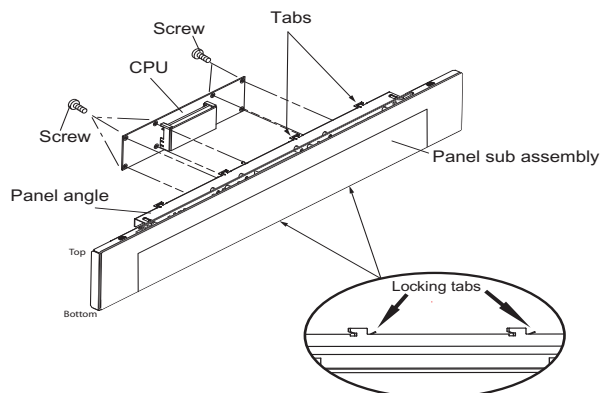

Figure C-6. Panel Angle Removal
6. Remove the four (4) screws holding the control panel assembly to the oven cavity front plate.
7. Insert a flat edge screw driver or similar object to release the Locking Tabs on bottom of Panel angle (Fig. C-6).
8. Slide the control panel assembly leftward to release the eight (6) tabs of the control panel assembly from the oven cavity front plate.